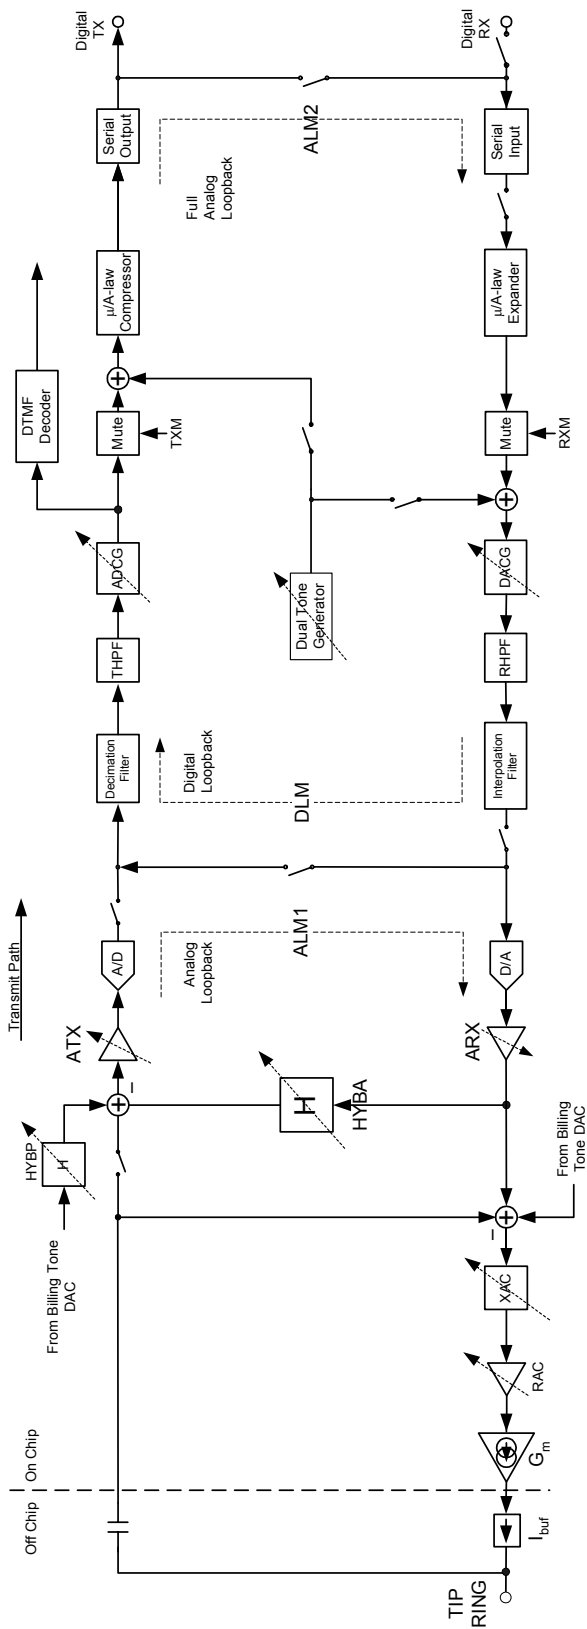

Figure 25. AC Signal Path Block Diagram
Unlike traditional SLICs, the codec function is integrated into the ProSLIC. The 16-bit codec offers programmable gain/attenuation blocks and several loop-back modes. The signal path block diagram is shown in Figure 25.
The block diagram for the voice-band signal processing paths are shown in Figure 25. Both the receive and the transmit paths employ the optimal combination of analog and digital signal processing to provide the maximum performance while, at the same time, offering sufficient flexibility to allow users to optimize for their particular application of the ProSLIC. All programmable signal-processing blocks are symbolically indicated in Figure 25 by a dashed arrow across them. The two-wire (TIP/RING) voice-band interface to the ProSLIC is implemented using a small number of external components. The receive path interface consists of a unity-gain current buffer, I_{BUF} , while the transmit path interface is simply an ac coupling capacitor. Signal paths, although implemented differentially, are shown as single-ended for simplicity.
The ProSLIC provides programmable transhybrid balance with gain block H. (See Figure 25.) In the ideal case where the synthesized SLIC impedance matches exactly the subscriber loop impedance, the transhybrid balance should be set to subtract a -6 dB level from the transmit path signal. The transhybrid balance gain can be adjusted from -2.77 dB to $+4.08$ dB around the ideal setting of -6 dB by programming the HYBA[2:0] bits of the Hybrid Control register (direct Register 11). Note that adjusting any of the analog or digital gain blocks will not require any modification of the transhybrid balance gain block, as the transhybrid gain is subtracted from the transmit path signal prior to any gain adjustment stages. The transhybrid balance can also be disabled, if desired, using the appropriate register setting.
- The full analog loopback (ALM2) tests almost all the circuitry of both the transmit and receive paths. The compressed 8-bit word transmit data stream is fed back serially to input of the receive path expander. (See Figure 25.) The signal path starts with the analog signal at the input of the transmit path and ends with an analog signal at the output of the receive path.
- An additional analog loopback (ALM1) takes the digital stream at the output of the A/D converter and feeds it back to the D/A converter. (See Figure 25.) The signal path starts with the analog signal at the input of the transmit path and ends with an analog signal at the output of the receive path. This loopback option allows the testing of the analog signal processing circuitry of the Si3210 completely independent from any activity in the DSP.
- The full digital loopback tests almost all the circuitry of both the transmit and receive paths. The analog signal at the output of the receive path is fed back to the input of the transmit path by way of the hybrid filter path. (See Figure 25.) The signal path starts with 8-bit PCM data input to the receive path and ends with 8-bit PCM data at the output of the transmit path. The user can bypass the companding process and interface directly to the 16-bit data.
Real and complex two-wire impedances are realized by internal feedback of a programmable amplifier (RAC) a switched capacitor network (XAC) and a transconductance amplifier (G_m). (See Figure 25.) RAC creates the real portion and XAC creates the imaginary portion of G_m 's input. G_m then creates a current that models the desired impedance value to the subscriber loop. The differential ac current is fed to the subscriber loop via the ITIPP and IRINGP pins through an off-chip current buffer (I_{BUF}), which is implemented using transistor Q1 and Q2 (see Figure on page 21). G_m is referenced to an off-chip resistor (R_{15}).